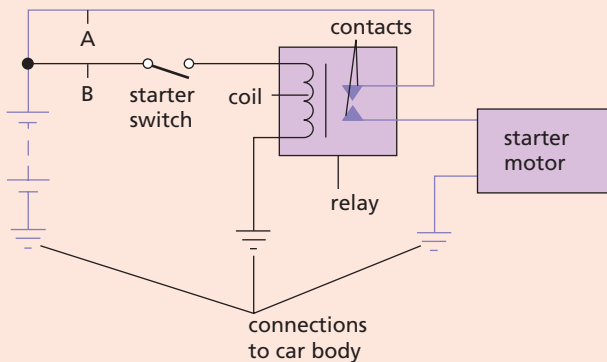

Figure 45.16
- 3 Part of the electrical system of a car is shown in Figure 45.16.